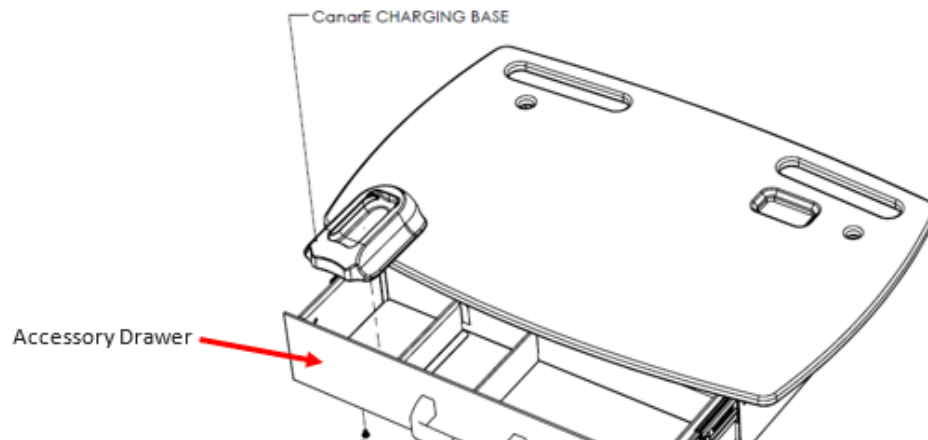

Figure 12: CanarE and CanarE Charger Placement
1. The CanarE, CanarE Charger, and Straps can be stored in the Clinic Cart drawer as illustrated in Figure 12.